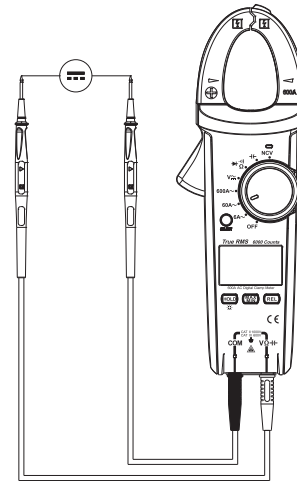

Figure 5
3. DC voltage measurement (See Figure 5)